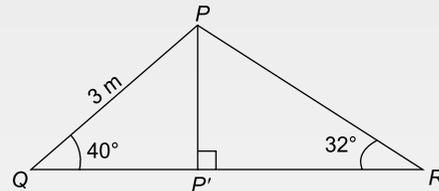

Figure RT1.5
- Figure RT1.5 shows a roof truss  $PQR$  with rafter  $PQ = 3$  m. Calculate the length of (a) the roof rise  $PP'$  (b) rafter  $PR$ , and (c) the roof span  $QR$ . Find also (d) the cross-sectional area of the roof truss